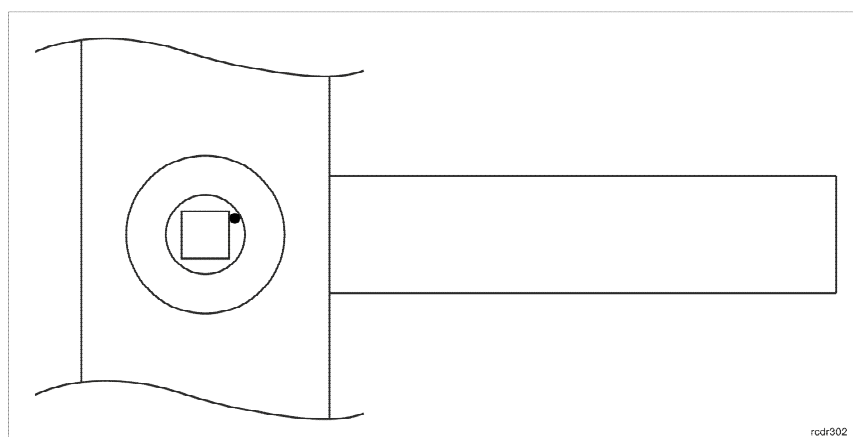

Fig. 7. Proper installation of handle mechanism
- Make sure that handle pin hole is positioned in such way that marker (red dot) indicates door top hinge (fig. 7) and then install handle pin inside the lock.